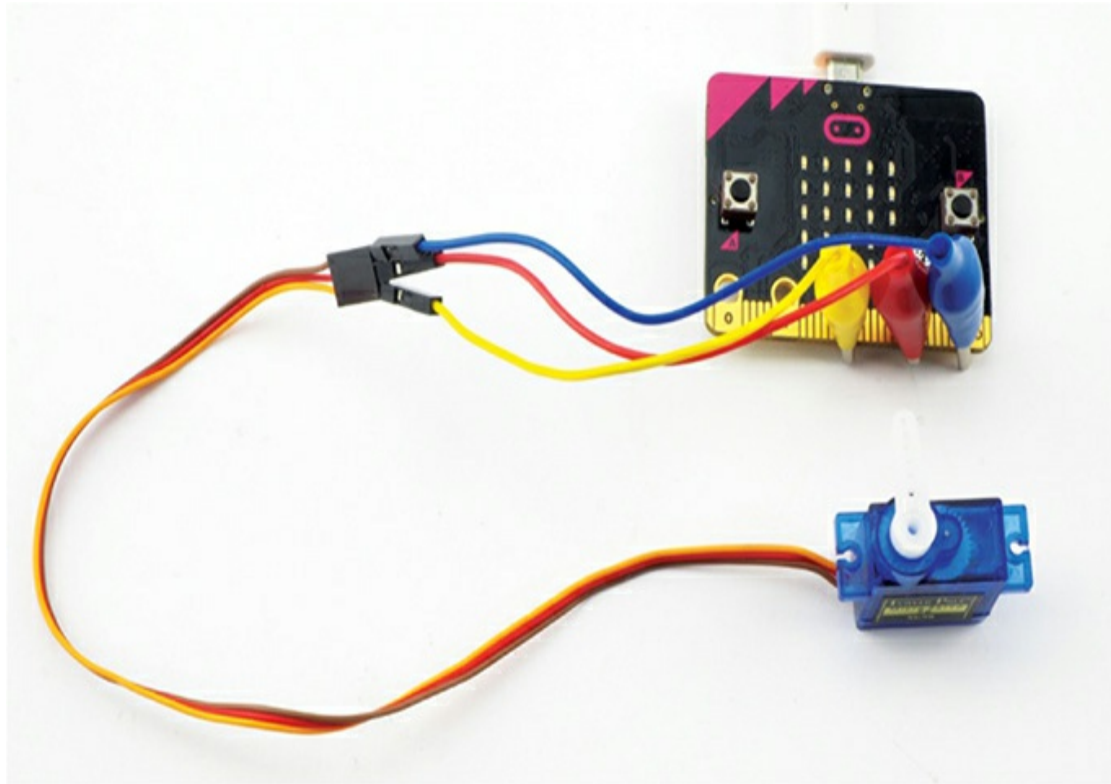

Figure 6-1: A servomotor connected to a micro:bit
One way to get things moving is to use a servomotor, like the one shown in Figure 6-1.
2. Servomotors come with different kinds of arms that can be attached to the cog-like shaft of the motor. For this project, select a simple arm like the one shown in Figure 6-1.
5. Once powered up, the servomotor arm should jump to a 90-degree position, perpendicular to the servomotor. The micro:bit will use this position as a reference point. If the arm isn't at 90 degrees, take it off and put it back on so that it is, as shown in Figure 6-1. If you plan to make the